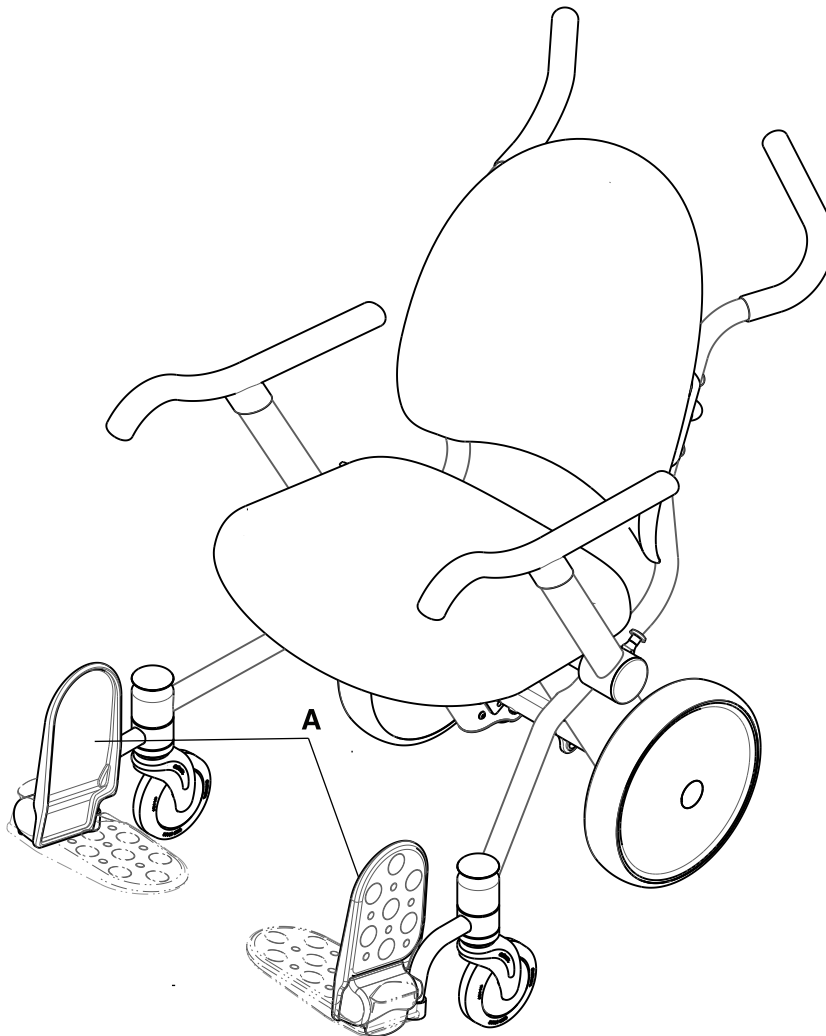

Figure 8: Flip-up footrests stowed position
2. Make sure that the flip-up footrests raise to the stowed position (A) (Figure 8 on page 19).